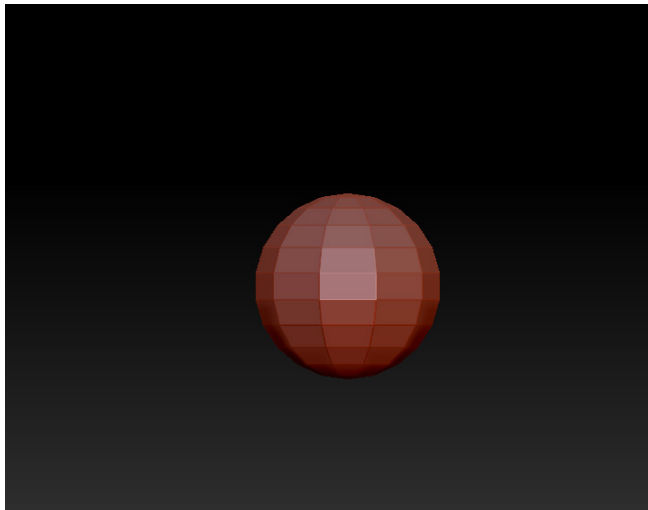

Figure 3-111 Shape of the sphere changed
3. Expand the **Initialize** subpalette in the **Tool** palette. In this subpalette, set the value of the **HDivide** slider to **10** and the **VDivide** slider to **12**, refer to Figure 3-94; the shape of the sphere changes, as shown in Figure 3-111.